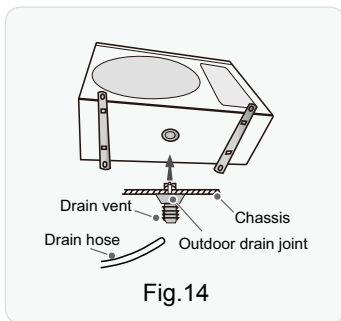

Fig.14
- (1) Connect the outdoor drain joint into the hole on the chassis.
- (2) Connect the drain hose into the drain vent.
- (As show in Fig.14)